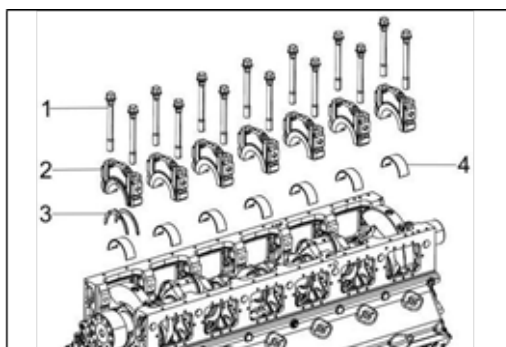

Figure 116
2. Loosen and remove the main bearing bolts (Figure 116, item 1).
3. Remove the main bearing caps (Figure 116, item 2). Be sure to note the markings on the main bearing caps, or mark them yourself, so they can be reinstalled in the same order as they were removed. **DO NOT REMOVE THE BEARING INSERTS AT THIS TIME.**
4. Remove the upper main bearings (Figure 116, item 4) and thrust plates (Figure 116, item 3).